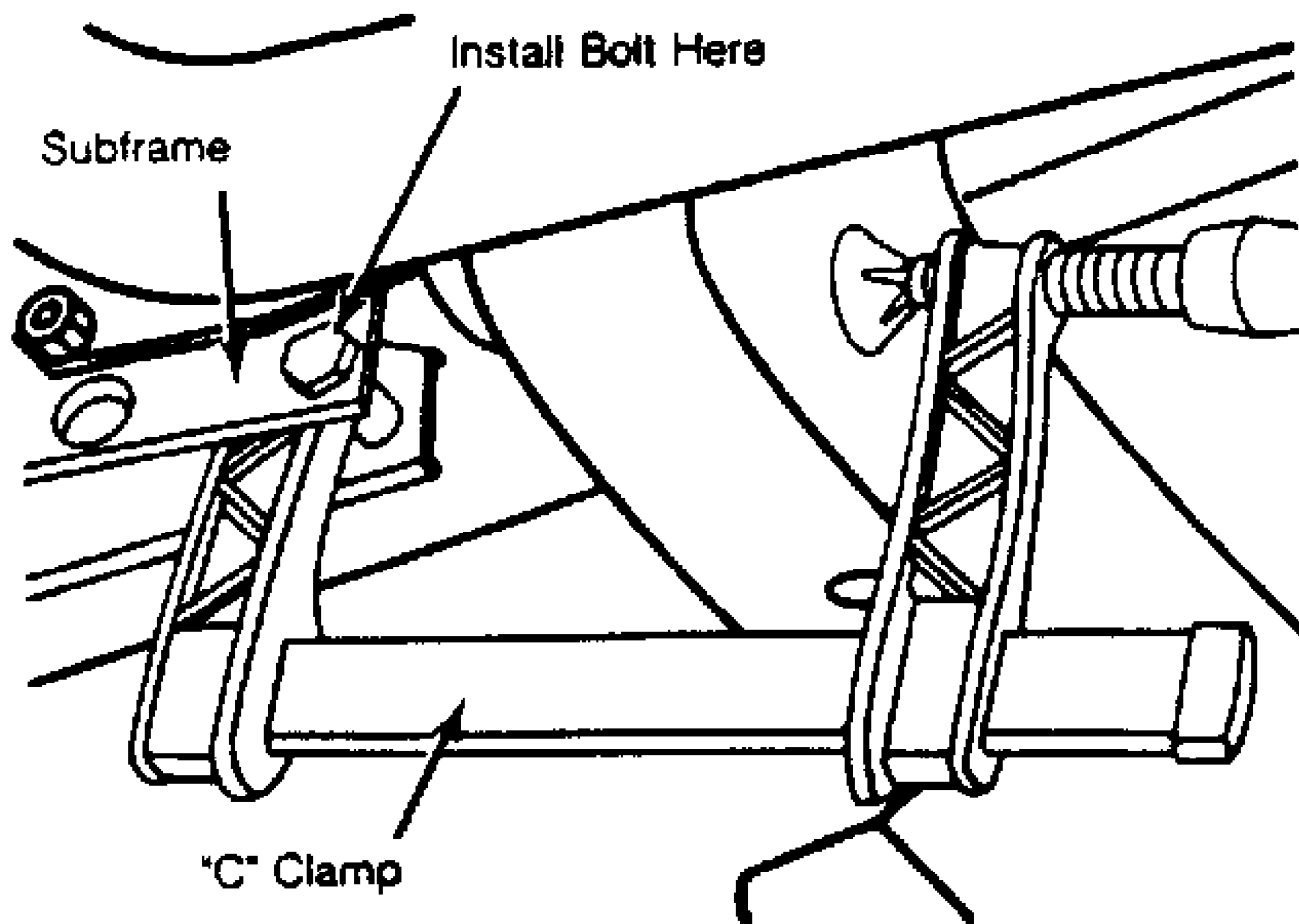

Fig. 4: Removing Subframe From Mounting Bracket (Conventional)
2) Insert a bolt through front subframe mount hole. See Fig. 4. Pull subframe from rear mounting bracket using a "C" clamp. Remove rear mounting bracket from body. Use Bushing Remover (5329) to press bushings from mounting bracket.